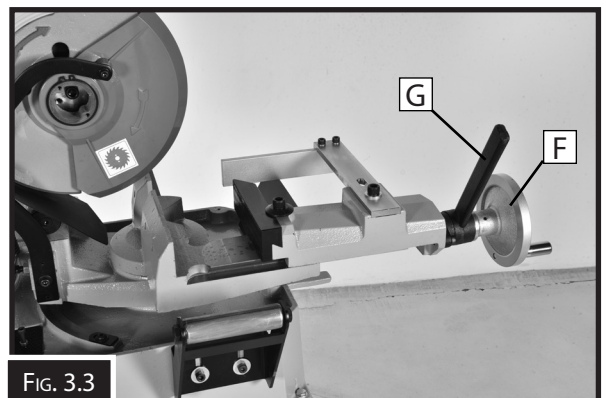

FIG. 3.3
- F. **Vice Handle:** Opens and closes the vise jaws to clamp the workpiece. (Fig. 3.3)
- G. **Quick Action Handle:** Allows for a small amount of opening and closing for quick operation. (Fig. 3.3)